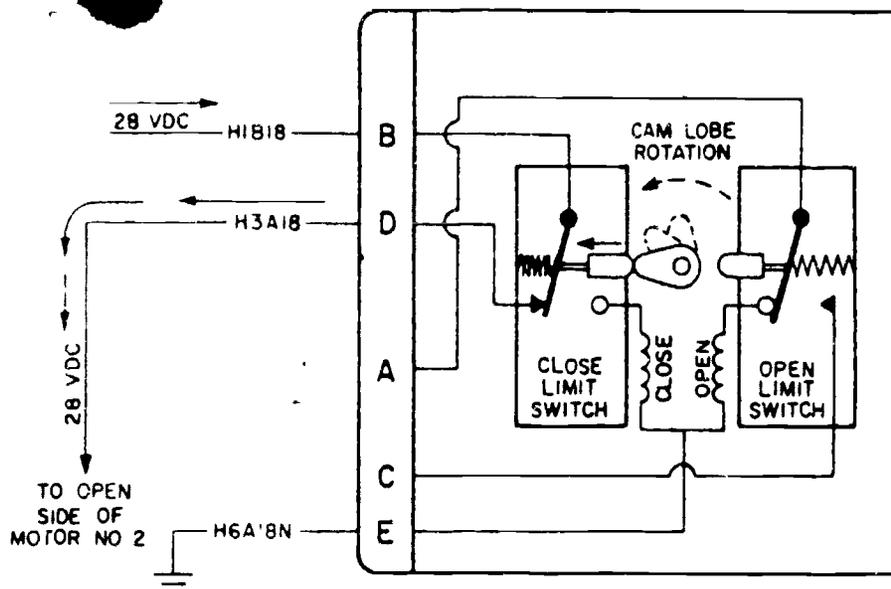

Figure 6a.
a. Refer to figure 6a and notice what happens to the cam lobe and limit switch after the motor has traveled full closed.
b. As the valve assembly finally closes, notice that the cam lobe has rotated around and has depressed (pushed in) the closed limit switch button. If you study figure 6a very closely, you will notice that the cam lobe has depressed the limit switch spring and contact. By this action the voltage is removed from the "close" armature winding. As was stated previously one of the purposes of a limit switch is to stop a valve from opening or closing too far. We do this simply by removing the power from the motor.
(1) Also note that with the close limit switch button depressed the 28V DC power has been re-routed to pin D and then along wire #H3A18; this wire indicates that it goes to another motor (motor #2). There is nothing to say that we can't use the 28V DC for other systems after it does its primary job. But remember, if the primary system does not operate, there is no way that power can be re-routed.